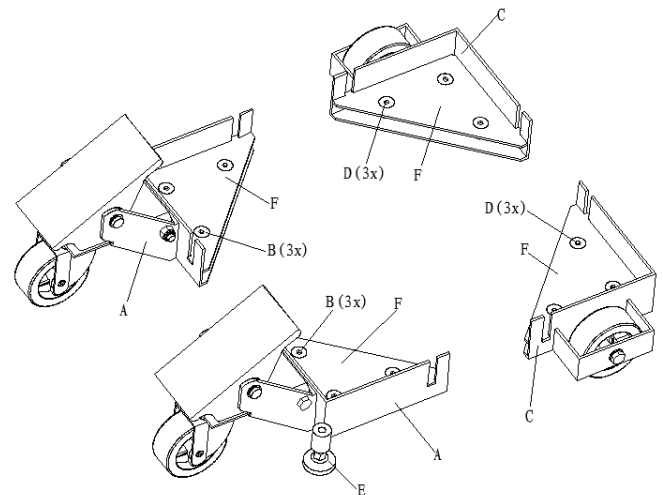

Fig.1
5. With the swivel caster side already determined, slide the two front swivel mobile base corners (A) onto the plywood. See figure 1.
6. Then lower the floating mounting plate (F) down onto the top surface of the plywood.
7. With a pencil, mark the location of the mounting holes (B) in the mobile base corners on the plywood. See figure 1.
8. Slide on the rear mobile base corners (C), lower the floating mounting plate (F) down onto the surface of the plywood and mark the location of the mounting holes (D). See figure 1.
The Universal Mobile Base can be adjusted level with the floor surface by raising or lowering one or both leveling screws (E). Leveling screws are located on both of the front swivel mobile base corners. Make all adjustment with the weight on the swivel casters, not the leveling screws. Lower the machine and recheck for level. See figure 1.